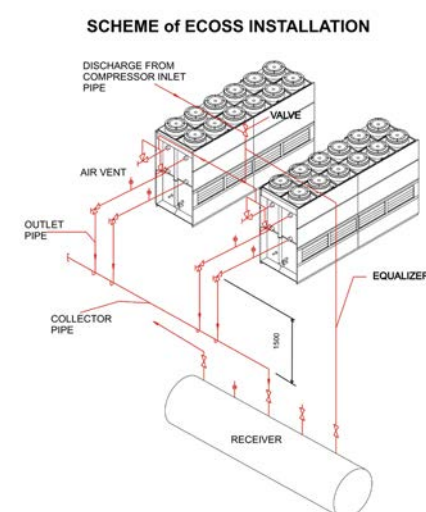

Figure 6: Installation of evaporative condensers with siphon for equalization of pressure loss.
- Figure 6 below provides detailed instructions on handling and assembly of upper and lower modules.